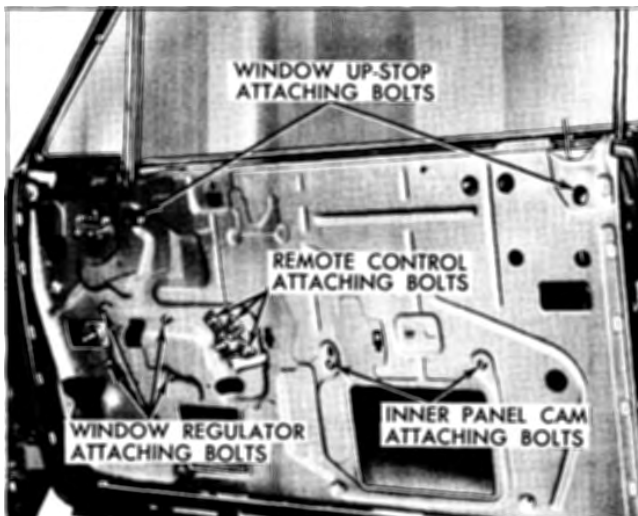

Fig. 3-24 Front Door Hardware
2. Remove bolts securing door inner panel cam and disengage cam from regulator balance arm. Remove cam from door (Fig. 3-24).
2. Remove remote control attaching screws and disengage remote control from connecting rod (Fig. 3-24).